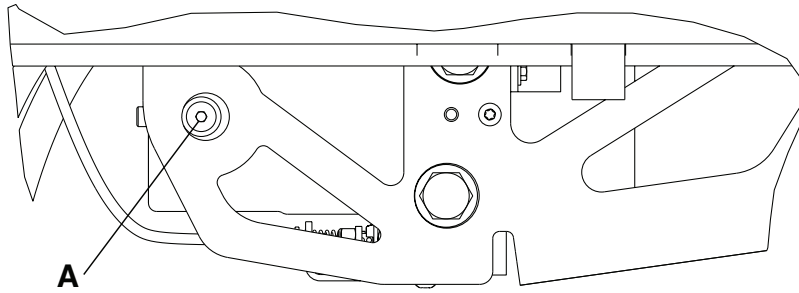

Figure 5 – Hydraulic assembly reservoir
3. Using a 3/16" hex wrench, remove the port plug (A) (Figure 5). Save the port plug.